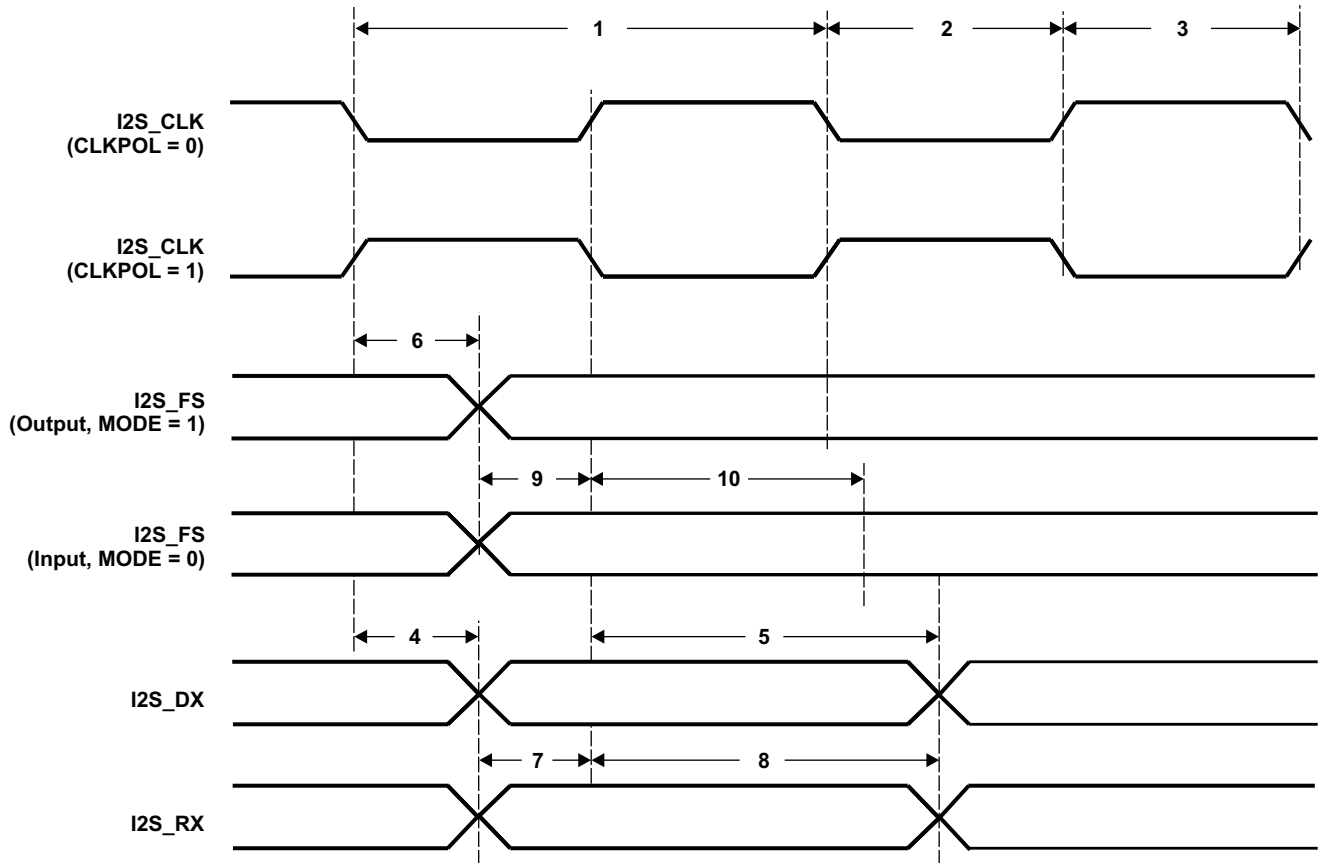

Figure 6-25. I2S Input and Output Timings
**Table 6-30. Timing Requirements for I2S [I/O = 3.3 V, 2.8 V, and 2.5 V](1) (see Figure 6-25)**
- (1) P = SYSCLK period in ns. For example, when running parts at 100 MHz, use P = 10 ns.
(2) Use whichever value is greater.
(3) In Slave Mode, I2S\_FS is required to be latched on both edges of I2S input clock (I2S\_CLK).
**Table 6-31. Timing Requirements for I2S [I/O = 1.8 V](1) (see Figure 6-25)**
(1) P = SYSCLK period in ns. For example, when running parts at 100 MHz, use P = 10 ns.
**[I/O = 3.3 V, 2.8 V, or 2.5 V] (see Figure 6-25)**
[I/O = 1.8 V] (see Figure 6-25)**